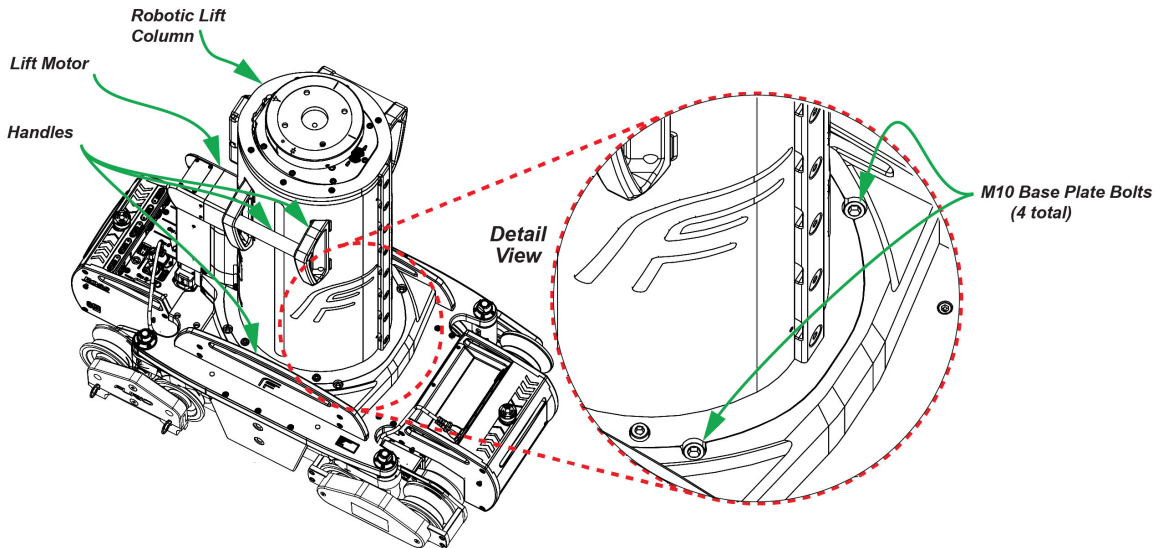

Figure 28 - M10 Base Plate Bolts Connecting the Lift to the Dolly
3. **For a Robotic Lift:** Using the 8 mm hexagonal wrench for the lift, tighten the four M10 base plate bolts (shown in **Figure 28**).